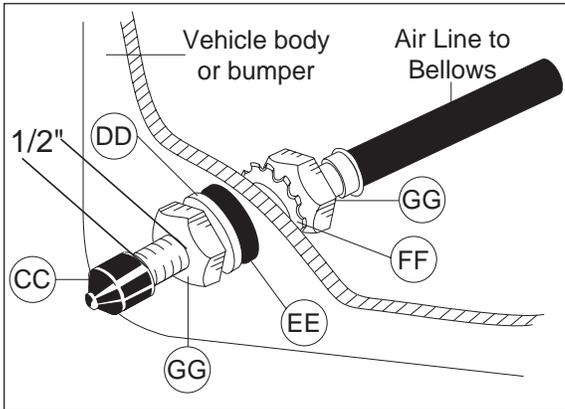

Figure 15
4. Install the inflation valves as shown in Figure 15.